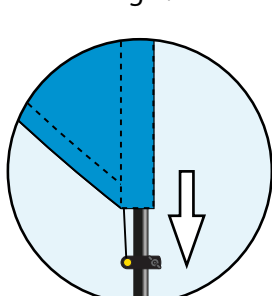

Fig 11.
9. Insert the yellow button on the end of the rope into the cleat on the pole, slide down the pole to tension the flag and tighten the wingnut. (Fig 11)